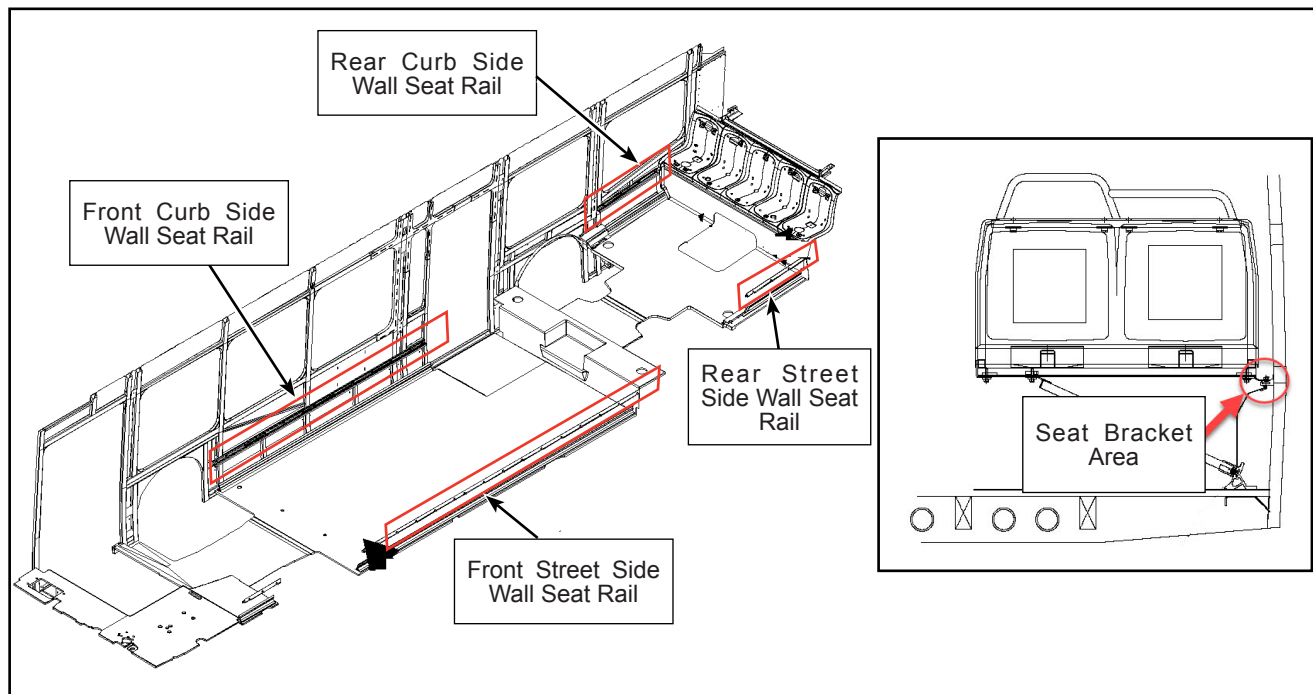
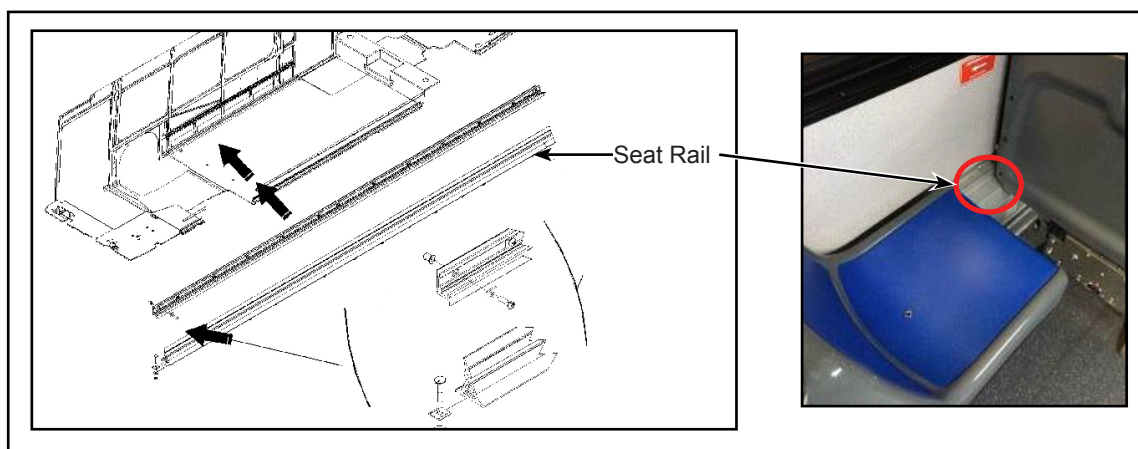

Figure 3 - Typical Location for Inspection of Seat Rail
Figure 5 - Typical Location of Seat Rail
- 1.4. Inspect the seat rails at seat bracket area for cracks (see Figure 3).
- 1.7. Locate the hardware used to install the seat rail on wall (see Figure 3 and Figure 5).